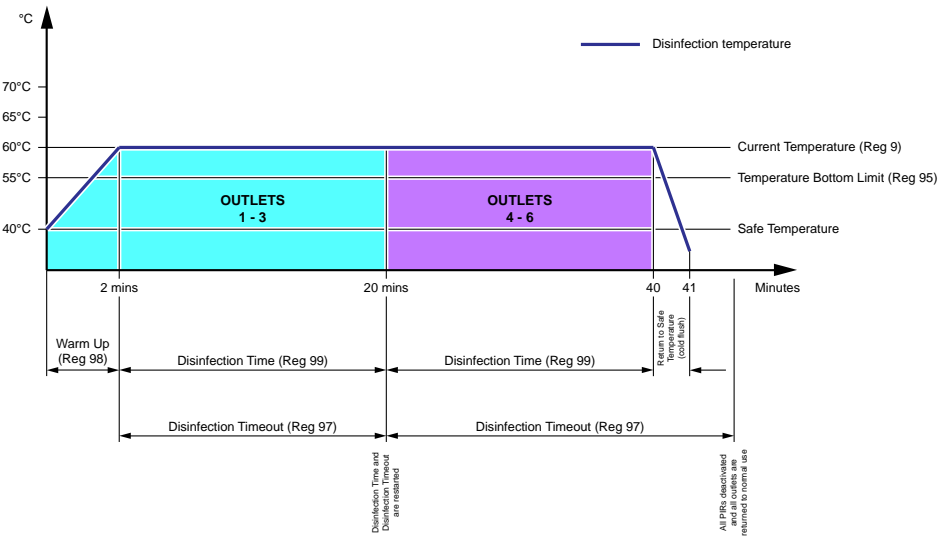
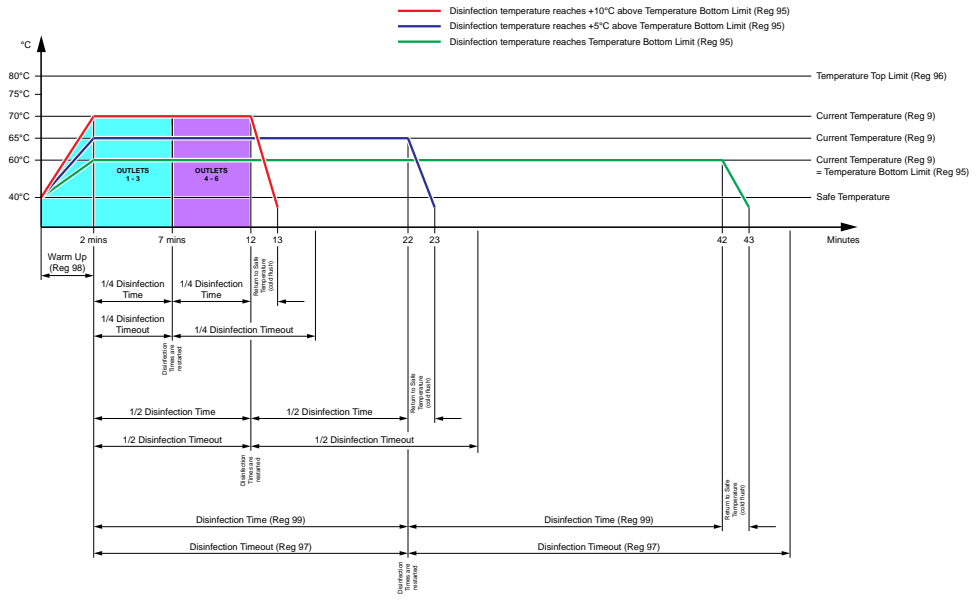

Figure 14:
Figure 15:
The STANDARD option will perform the disinfection strictly according to the individual temperature and time settings (see Figure 14). The outlets are disinfected three at a time using full water flow.
If the water temperature during the cycle is between ‘Disinfection Temperature Bottom Limit’ (Reg 95) and ‘Disinfection Temperature Top Limit’ (Reg 96), the cycle time is progressively reduced. The reduction is computed continuously and has the effect of halving the time for each 5°C increase above the ‘Disinfection Temperature Bottom Limit’ value (see Figure 15). If the temperature rises above
See Figure 14 (STANDARD), Figure 15 (EXPONENTIAL), ‘Thermal Disinfection of Cold Supply’ and ‘ECO DISINFECTION’
See Figure 14 (STANDARD) and Figure 15 (EXPONENTIAL)
See Figure 14 (STANDARD) and Figure 15 (EXPONENTIAL).
- The water does **NOT REACH** the **'Disinfection Temperature Bottom Limit'** within the **'Disinfection Warm Up Time'** (see Figure 14 and Figure 15).
- The **'Disinfection Temperature Bottom Limit'** is **NOT MAINTAINED** within the **'Disinfection Timeout'** (see Figure 14 and Figure 15).